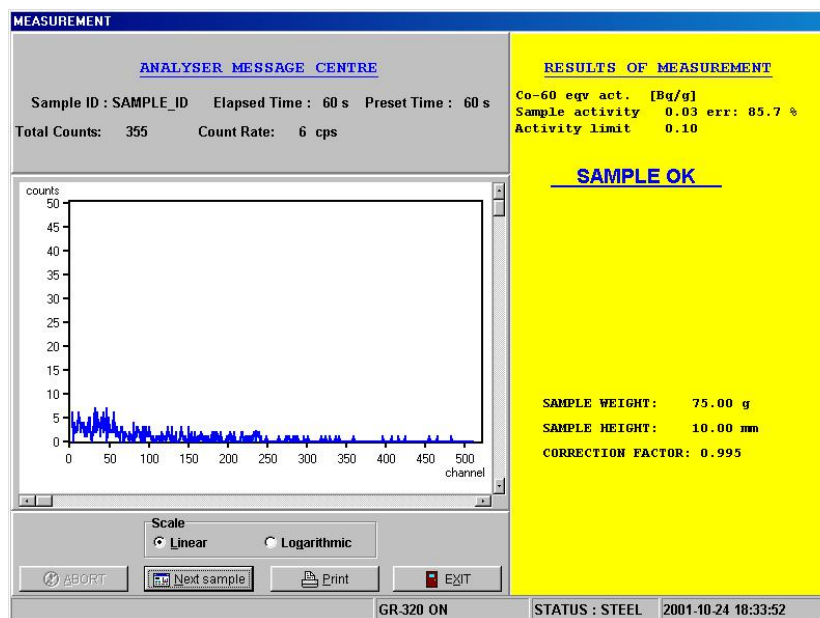

Fig. 24
- The spectrum looks like on the figure 24 – it means no peaks are visible - you are sure sample is O.K. If some peak appears a nuclide is present, probably other nuclide than nuclides in the calibration set. Ask radiation safety officer (RSO) for help.
- There is no message UNIDENTIFY ISOTOPE PRESENT in the right down corner of the screen and the QUALITY OF FIT (QF) is near to 1.0, usually lower than 5. If the message is present check if conditions for measurement are O.K. (sample has sizes and thickness closed to the calibration standards, sample is in the center of the sample chamber, time of measurement is 300 seconds) and repeat the measurement. In case of good measurement conditions and message again ask RSO for help.